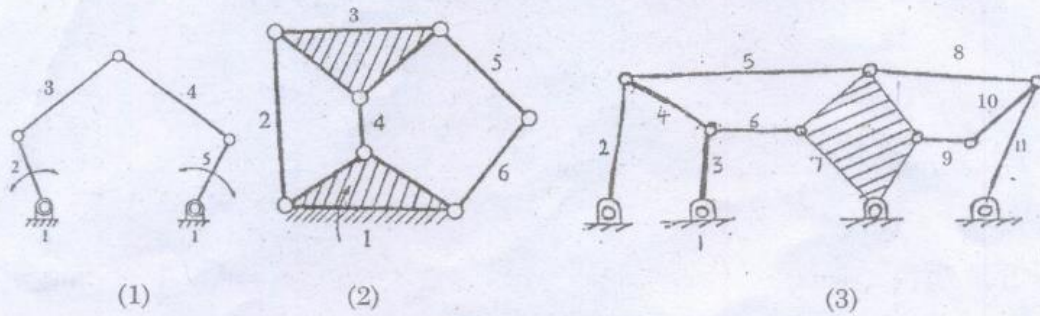

Fig. 11 (b) (i)
- (b) (i) Find the degrees of freedom for the mechanisms shown in Fig 11(b) (i). (7)